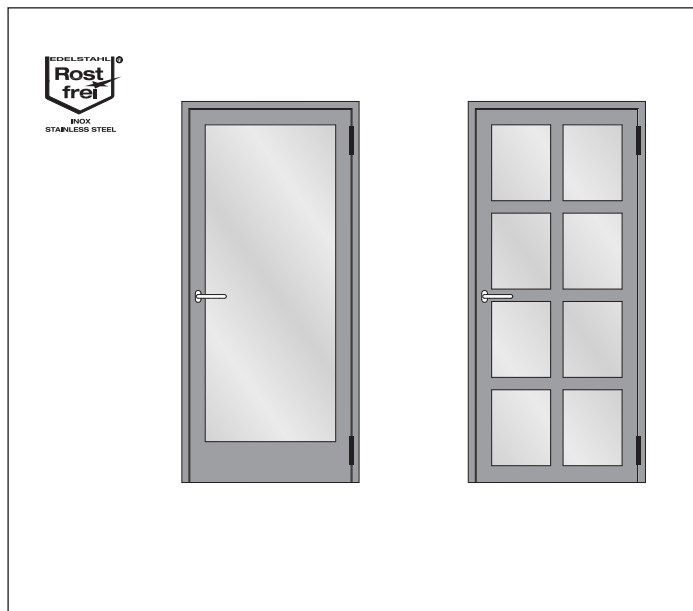

Fig. 178 Rigid leaf frame with mid-rails or a high sill rail
- One or several transoms (Fig. 178)
- High sill rail (height approx. 200 mm) (Fig. 178)